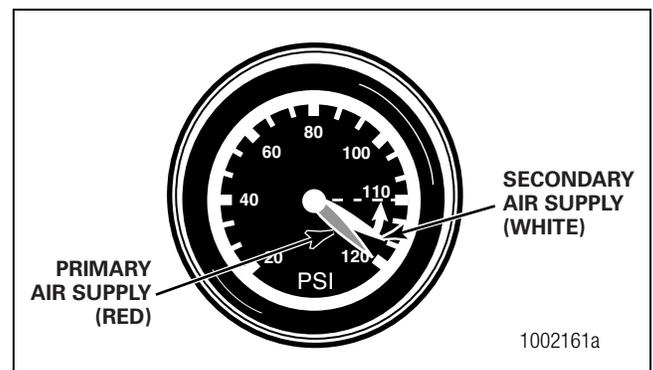

Figure 3.2
1. Check compressor loaded and unloaded cycle. Figure 3.2.